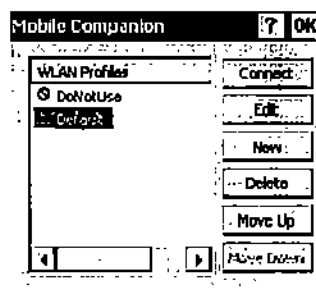

Figure B-2. WLAN Profiles
1. Tap on the task tray icon and select *WLAN Profiles* from the *Mobile Companion* menu. When the *WLAN Profiles* window initially displays, two profiles appear in the *WLAN Profiles* list box. See Figure B-2.